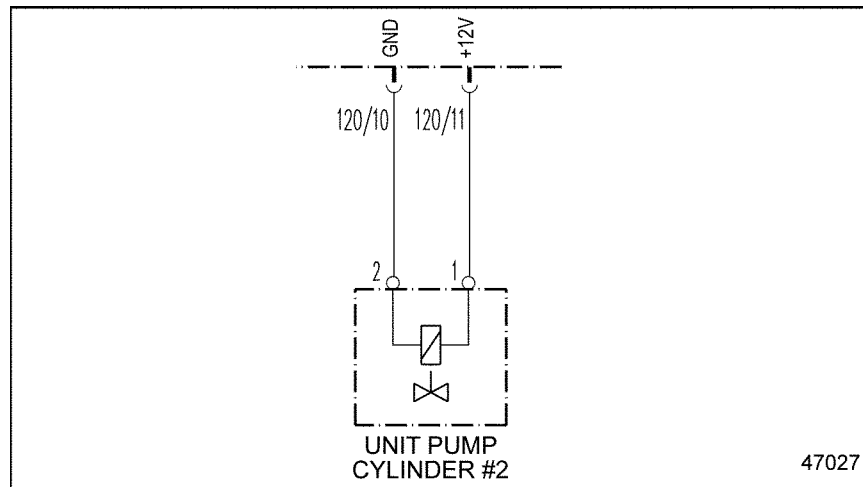

Figure 45-1 Electronic Unit Pump #2
2. Measure the voltage between pins 1 and 2 of Electronic Unit Pump #2. See Figure 45-1.